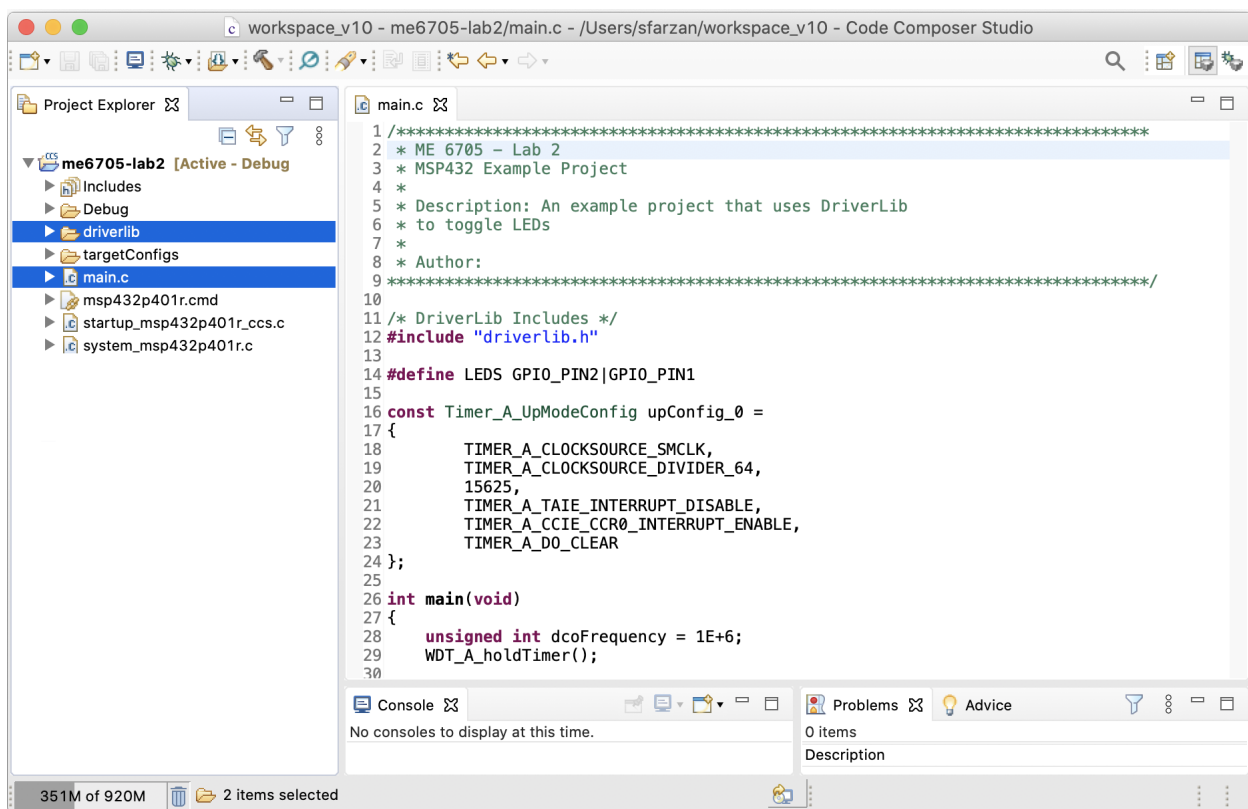

Figure 6: `main.c` and `driverlib` copied into the project.
- On your computer, find the directory (folder) where the project is created (under the workspace folder). Copy and paste the `main.c` file and the `driverlib` folder into the Lab 2 project folder under the workspace. The original `main.c` source file will be replaced with the new one (Figure 6).